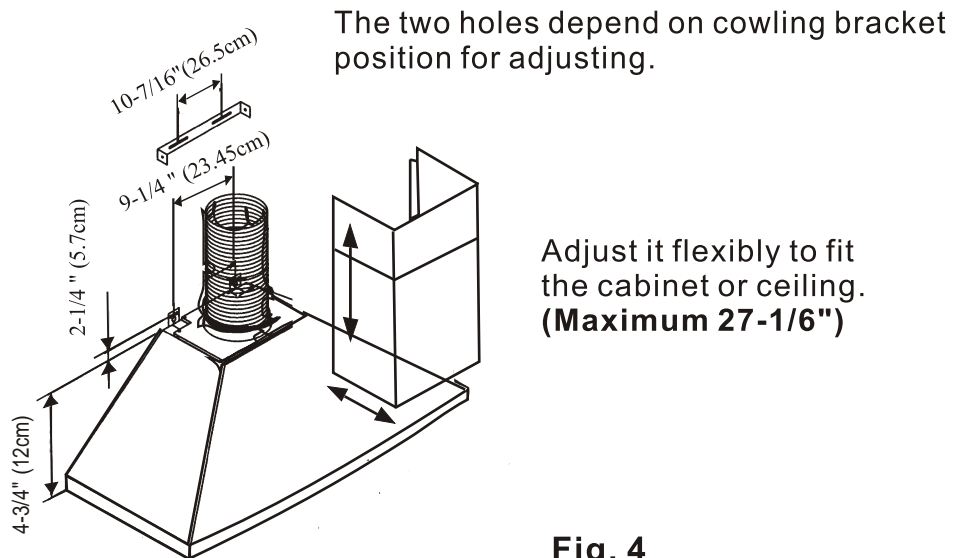

Fig. 4
Fit the Chimney hood body at the correct height via the brackets to the vertical surface, ( Refer Fig. 4 for mounting screw measurements). Locate the hanging screw allowing a distance of 5 mm of the screw head to the wall.
- B. To fit the duct to the top of the canopy, slide the bottom lip under the black mounting and then lock in to place with the 4 screws provided. (Fig. 4)